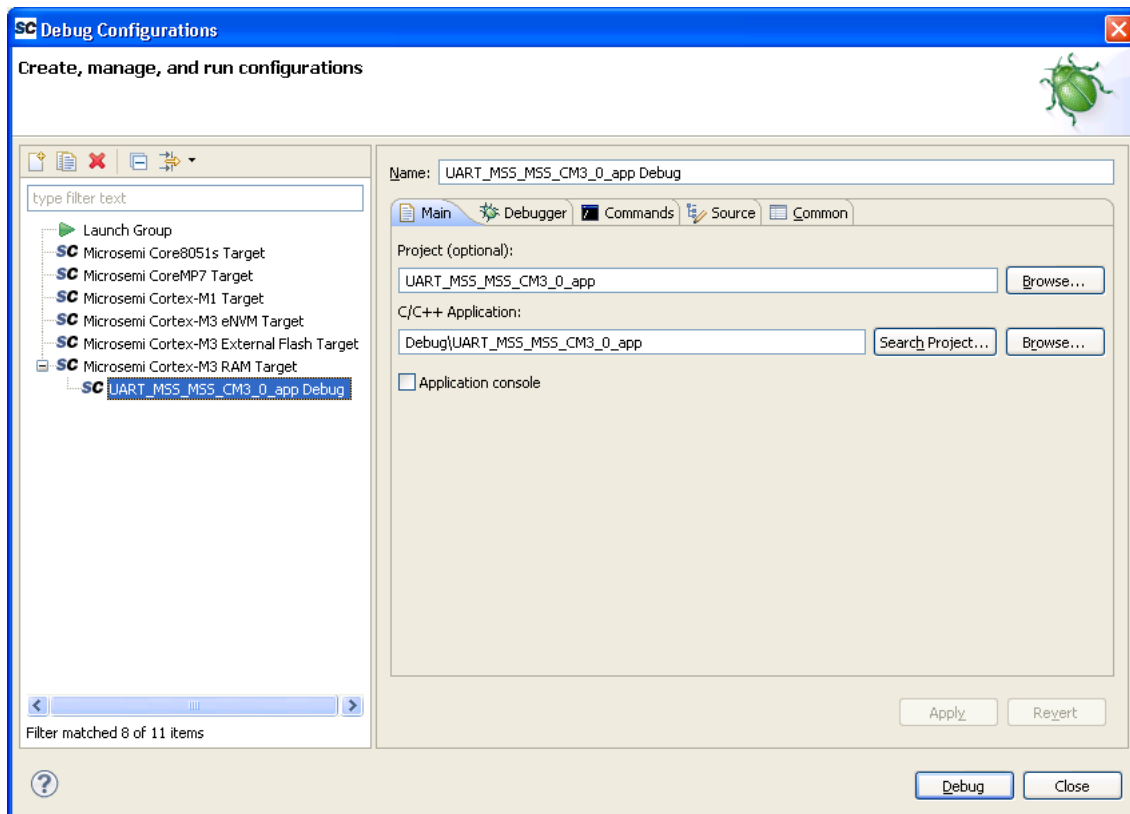

Figure 21 - Debug Configurations Window
2. Double-click on **Microsemi Cortex-M3 RAM target**. The **Debug Configurations** window is displayed, as shown in Figure 21.